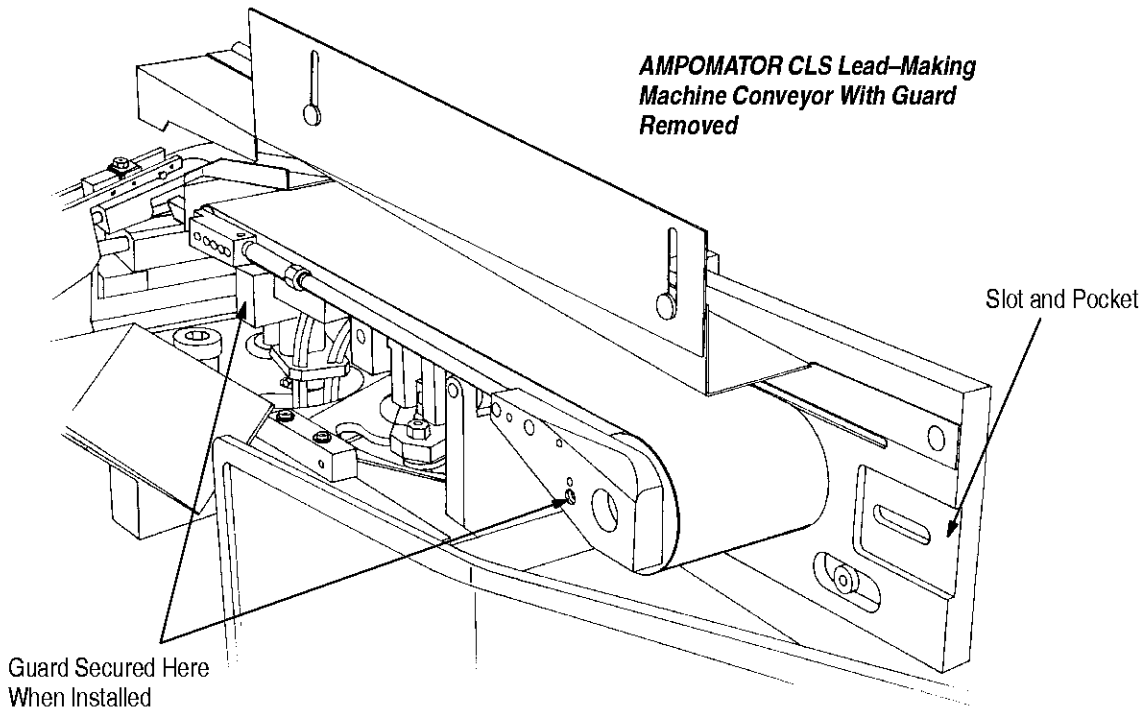

Figure 2
2. Remove side guard (854309-1) from the lead-making machine conveyor assembly and replace it with guard (856264-1) from the primary conveyor assembly. See Figure 2 for guard location on machine conveyor.